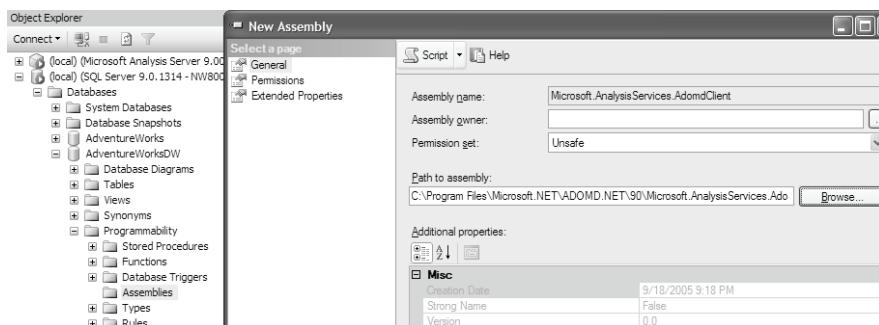

Figure 18.19 You need to register a non-trusted assembly explicitly before you can reference it from an SQL Server project.
10. Change the permission set to *Unsafe* (Figure 18.19). Click OK to register *AdomdClient*.